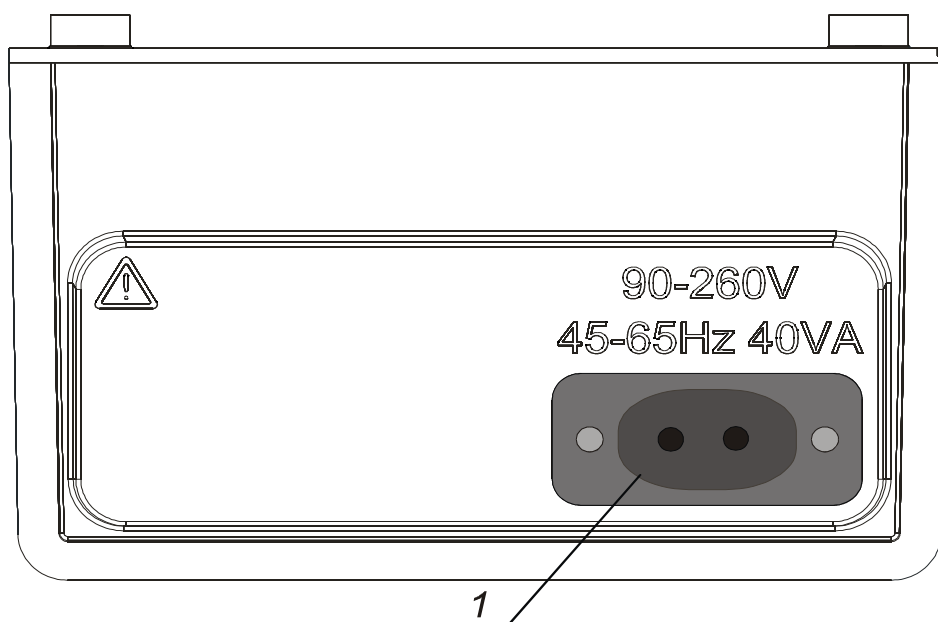

Fig. 4. Mains connector
- Mains supply cable connection to the mains socket (**Fig. 4**).